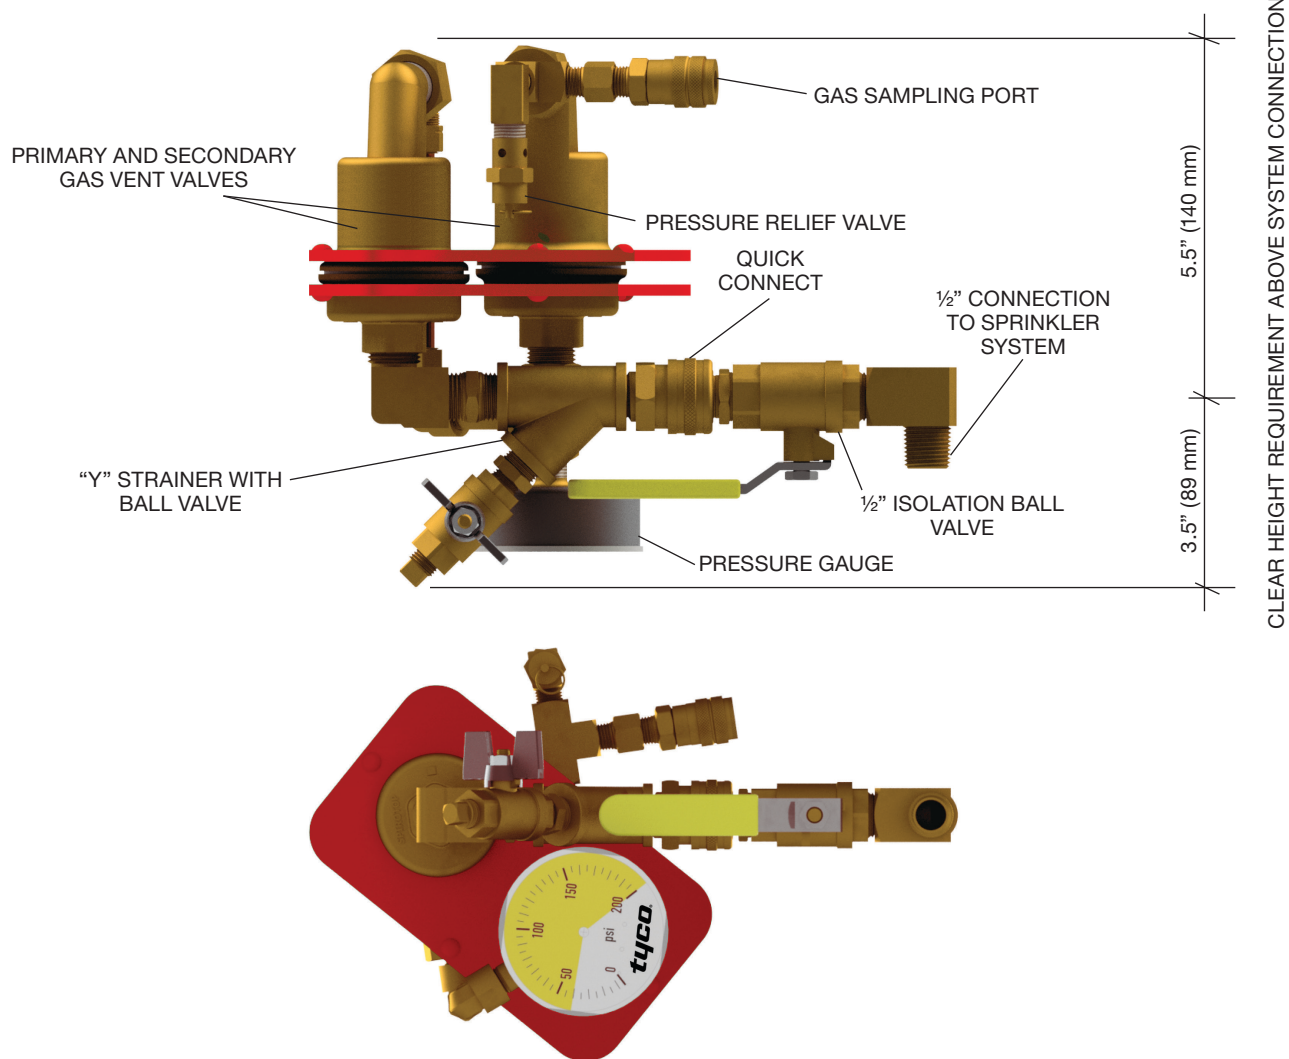

FIGURE 1
The controlled venting is achieved by integrating a pressure relief valve on the gas discharge piping assembly of the TAV-WN Air Vent as shown in Figure 1 Assembly Drawing. During the wet pipe nitrogen inerting process, the vent remains closed to facilitate purging of corrosion causing oxygen from the piping network. Once the piping has been appropriately inerted with nitrogen gas, using the TYCO WPNI protocol, and is filled with water, the vent allows trapped gases to vent from the piping as the system returns to normal pressure. When the TAV-WN Air Vent is used in conjunction with the nitrogen inerting process to provide internal corrosion control for wet pipe fire sprinkler systems by injecting nitrogen gas into the piping network to achieve a nitrogen gas concentration of at least 98%, this controlled venting achieves the following:
Step 1. The TYCO Model TAV-WN Air Vent is equipped with an isolation ball valve to be connected to the fire sprinkler system. Once the TAV-WN has been assembled at the provided quick connect, as shown in Figure 1, a ½ in. outlet (welded or mechanical) must be installed to connect the vent assembly to the sprinkler system.